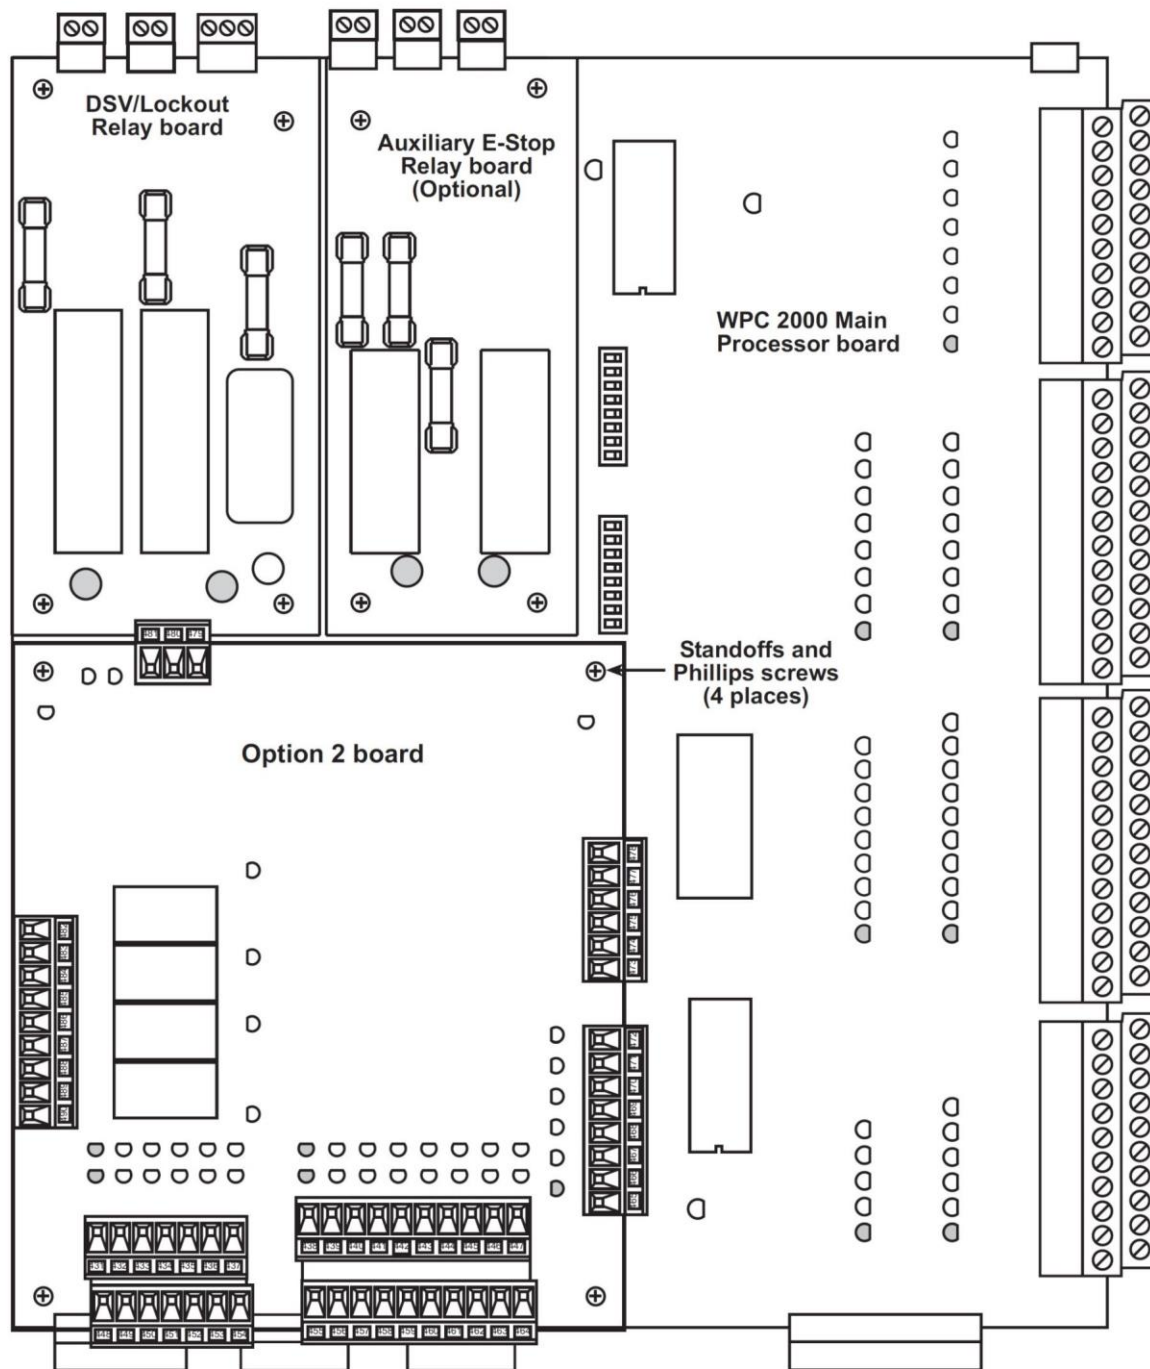

Figure 2-1. Option 2 Board Installed on WPC 2000 Main Processor Board
| Figure 2-1. Option 2 Board Installed on WPC 2000 Main Processor Board ..... | 16 |
To install the WPC 2000 Option 2 board (see Figure 2-1, next page) perform the following steps:
6. Making sure you are grounded, align the holes in the four corners of the Option 2 board with the four standoffs on the WPC 2000 Main Processor board (refer to Figure 2-1 for correct placement of board), align the two connectors on the underside of the Option 2 board with their mating connectors on the WPC 2000 board, and slowly push the board down until both connectors are seated. Then screw the board down, using the Phillips screws provided.